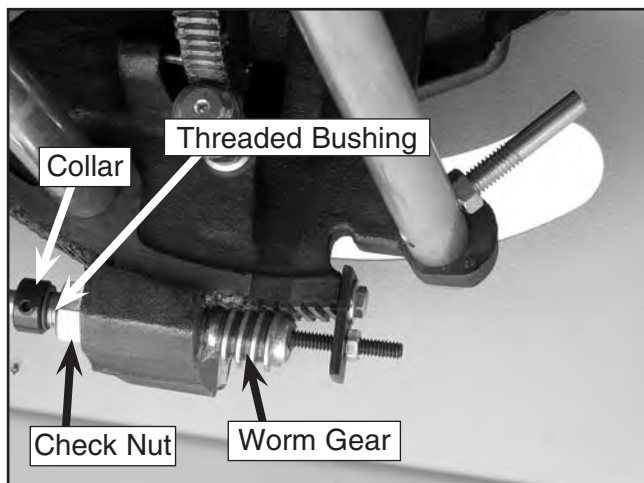

Figure 66. Blade tilt worm gear assembly.
3. Loosen the collar setscrew and slide the collar away from the check nut (**Figure 66**).
4. Loosen the check nut and thread it completely off of the threaded bushing (**Figure 66**).